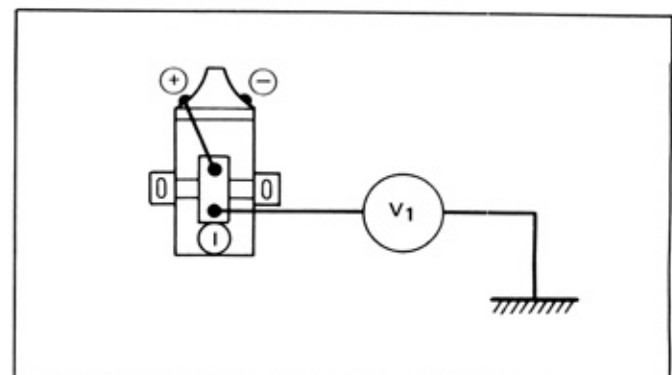

Fig. 15-6 Ignition Coil Inspection
- Check up between battery and ignition coil ① part. With the ignition switched on, check to see that there is voltage (V_1) at terminal in the ① part shown in Fig. 15-6.